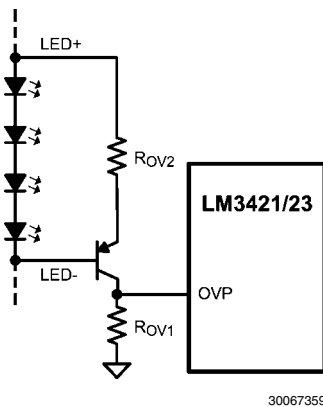

FIGURE 13. Floating Output OVP Circuitry
If the LEDs are referenced to a potential other than ground (floating), as in the buck-boost and buck configuration, the output voltage (VO) should be sensed and translated to ground by using a single PNP as shown in Figure 13.